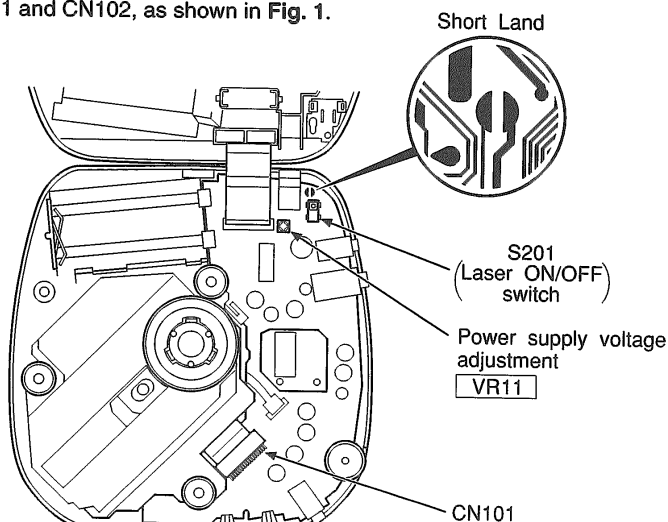

Fig. 1
Short-circuit the lands of the laser ON/OFF switch (S201) by soldering them. It turns “ON” position. (Refer to below Fig. 1 or printed circuit board and wiring connection diagram for short land location on page 27.)
2. Take care to connect CN101 and CN102, as shown in Fig. 1.
4. Adjust **VR11** on the P.C.B. at 2.45 ± 0.02 V, as shown in Fig. 1.
Fig. 1 is a block diagram showing the compression-shockproofing mechanism, the difference of which from the conventional mechanism is as follows: Input information read out at double speed undergoes data compression (16 bits → 4 bits) by the encoder in the ADPCM (Adaptive Difference PCM) and stored in the external memory; the stored memory information undergoes data elongation (4 bits → 16 bits) by the decoder in the ADPCM and supplied at normal speed to the D/A converter.